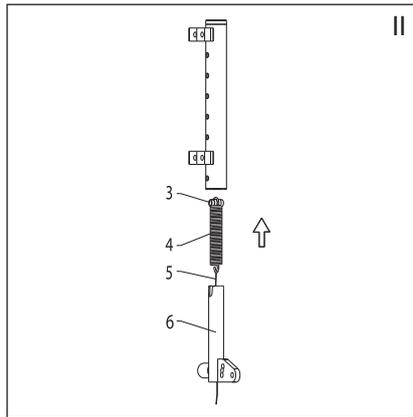
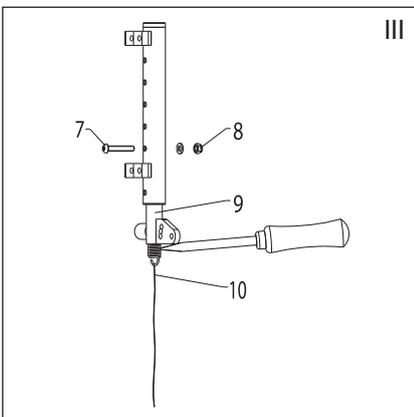

Abb. 2
Abb. 3
Insert the expansion spring (Fig. 2, item 4) with the close eyelet into the receiver tube. When the receiver tube's bore hole and the eyelet hole are flush, insert the sleeve (Fig. 2, item 3). Secure the sleeve with the screw (Fig. 3, item 7). Tighten the nut (Fig. 3, item 8) with a torque of 7 Nm.
Hook a cord (Fig. 3, item 10) into the lower eyelet of the expansion spring and push the anti-tipper tube (Fig. 2, item 6) over the cord and expansion spring into the receiver tube. Pull at the cord (Fig. 3, item 10) until the expansion spring extends from the anti-tipper tube (Fig. 2, item 6).